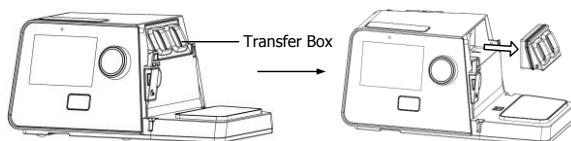

Fig. 18-2
(1) **Removing the Transfer Box:** First remove the water chamber from the device, then remove the transfer box, as shown in Fig. 18-2.